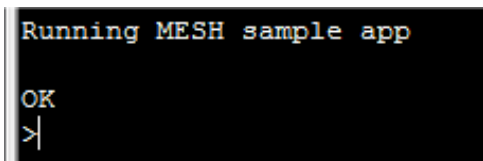

Figure 13: Mesh sample app is running
7. Tick/untick the BREAK checkbox to reset the board. Confirm that UwTerminalX displays the following (Figure 13).